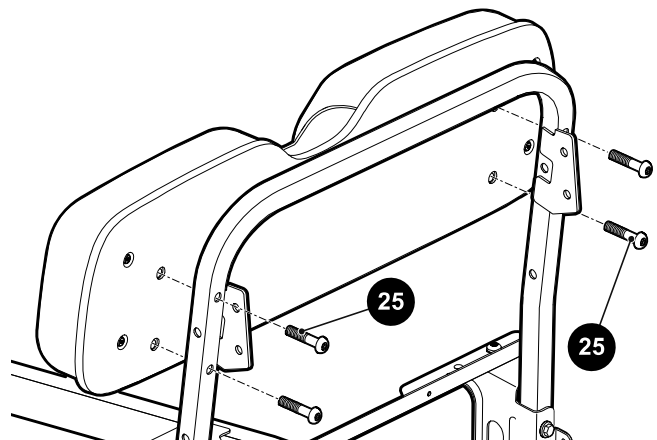

Figure 16 Front Seat Back
10. Remove four torx head bolts (25) that secure the front seat back to the seat back support bracket (Figure 16).